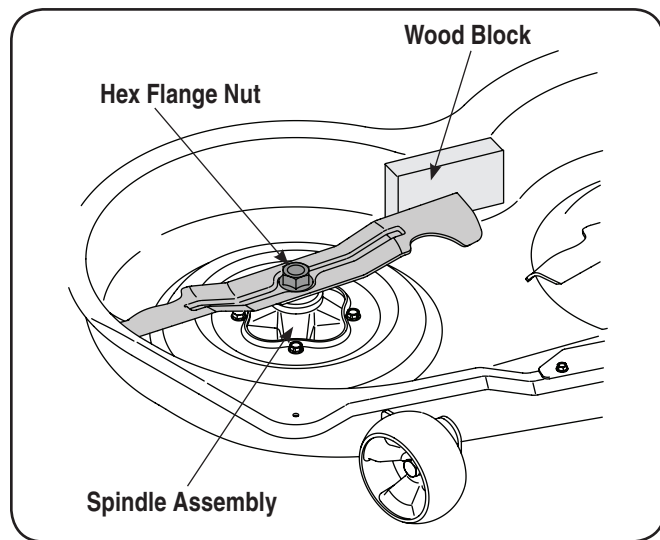

Figure 4-17
2. Place a block of wood between the center deck housing baffle and the cutting blade to act as a stabilizer. See Figure 4-17.
3. Use a 15/16" wrench to remove the hex flange nut that secures the blades to the blade spindle assemblies. See Figure 4-17.